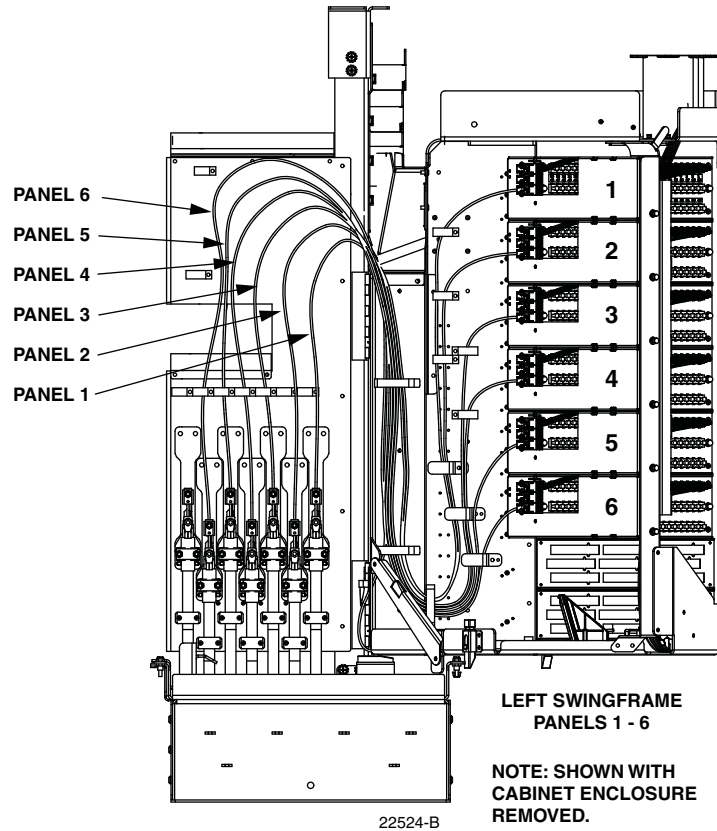
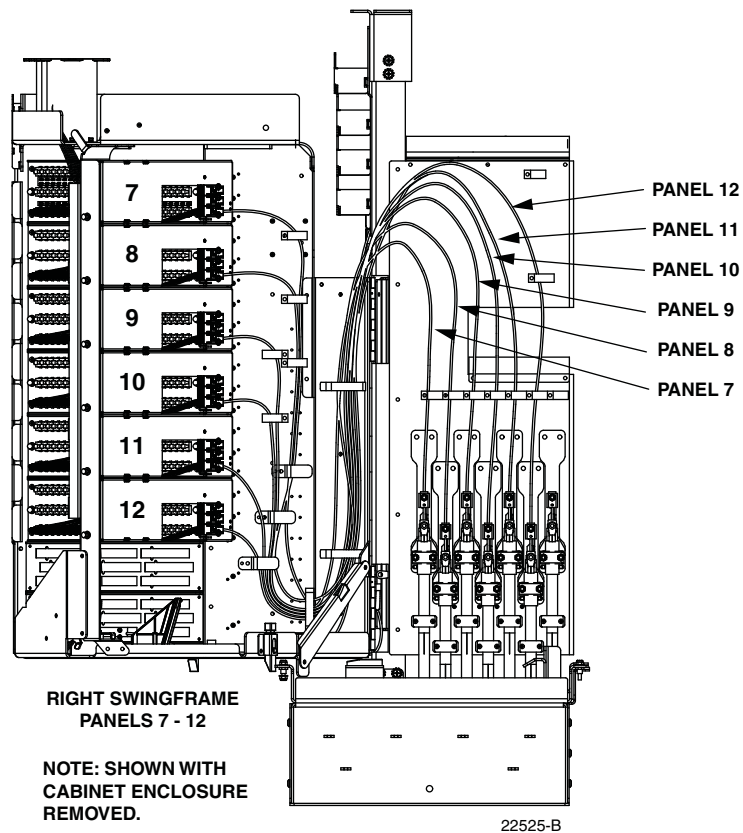

Figure 21. Route and Secure OSP Cable Subunits - (Panels 1 – 6)
Figure 22. Route and Secure OSP Cable Subunits - (Panels 7 – 12)
- Route and secure the OSP cable subunit fibers within the cabinet as shown in Figure 21 and Figure 22.